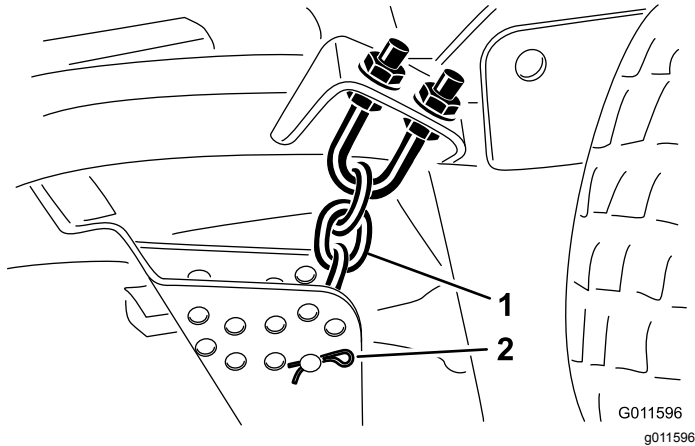

Figure 19
8. Remove the hairpin cotter and clevis pin securing the height-of-cut chains to the rear of the mower deck (Figure 19).